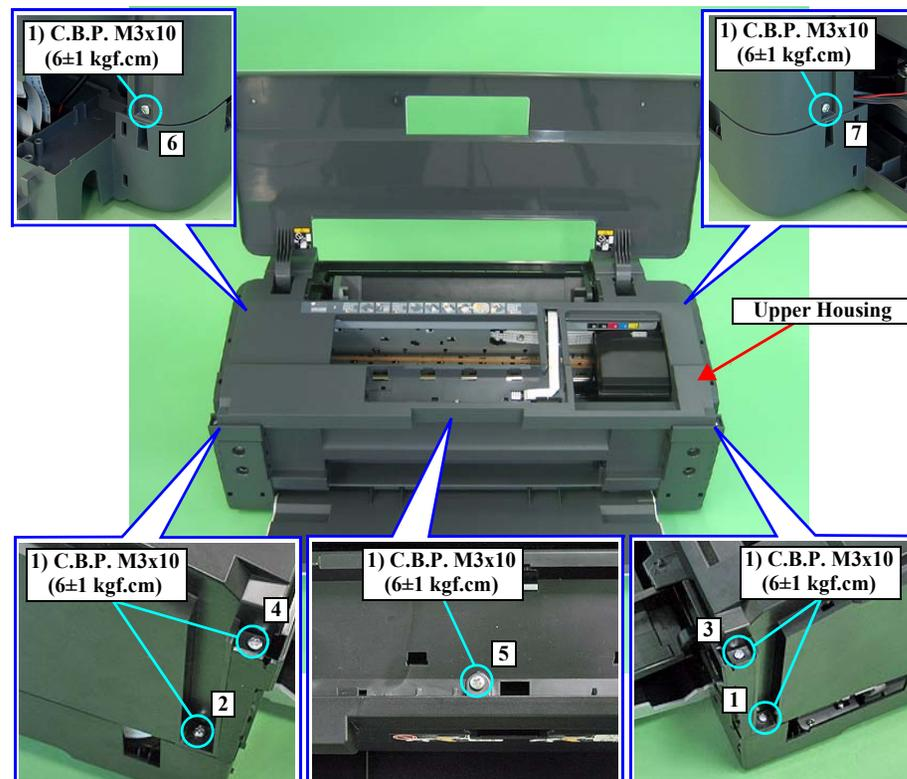

Figure 3-25. Remove the Upper Housing
- Tighten the screws in the order shown in Figure 3-25.